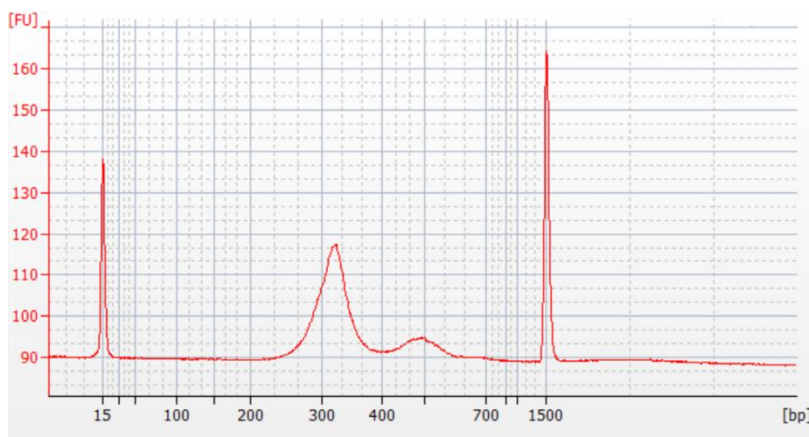

Figure 2. Example of plasma cfDNA captured library size distribution on Agilent 2100 Bioanalyzer
2.7.2 Library fragment size QC (Optional): Assess the library quality with a recommended capillary electrophoresis analyzer and associated kit. The peak size of the library fragment should be at 300-350 bp for plasma cfDNA library, without obvious peaks of small and big fragments, as shown in Figure 2.